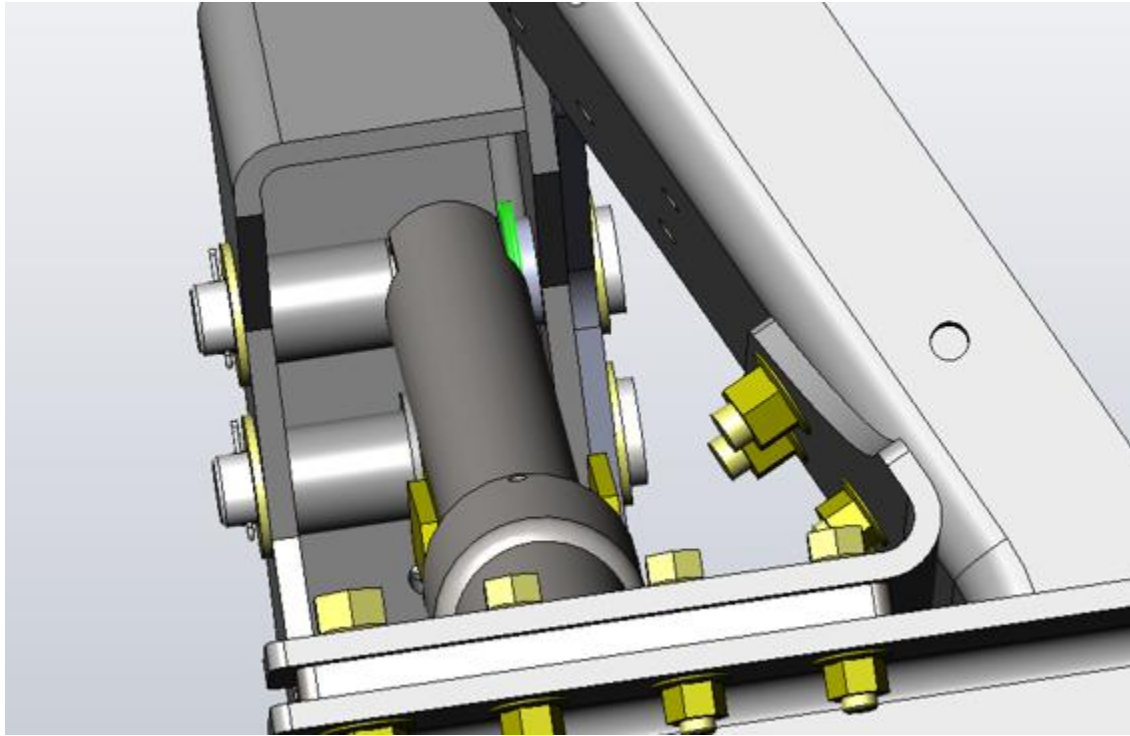

Figure 6.1
- 8) Remove the upper cylinder pin cotter-pins and outer washers. *See Figure 6.1*